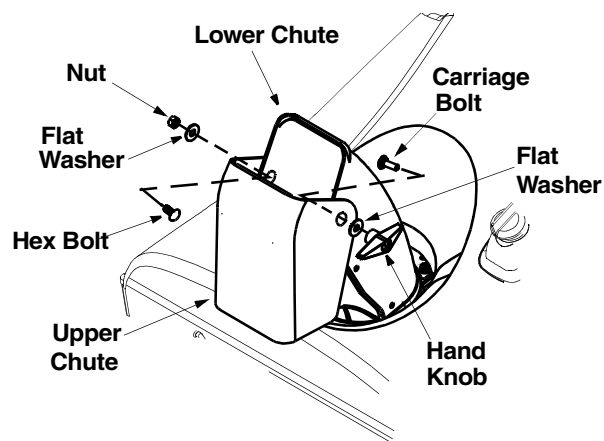

Figure 4
- Turn the chute crank until the chute faces straight to the front. See Figure 4.
- Remove the hand knob, flat washer and carriage bolt from the upper chute. See Figure 4.
- Adjust the upper discharge chute up or down as shown in Figure 4. You will have to loosen the hand knob to adjust the upper chute, and then retighten after correct adjustment is reached.